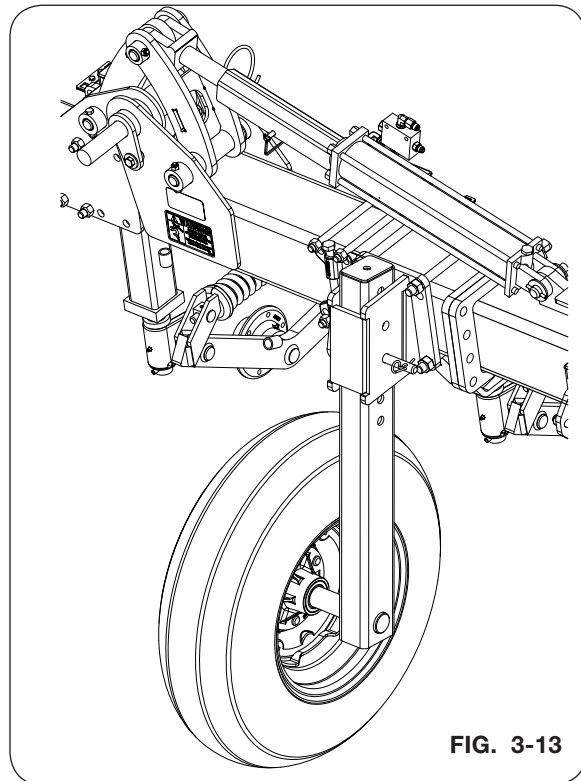

FIG. 3-13
3. Repeat steps 1 and 2 adjusting each gauge wheel position on all of the wing sections. (FIG. 3-13)